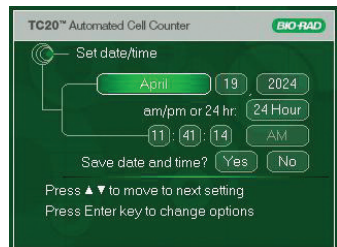

Fig. 6. Setting the date and time.
3. Use the **up** or **down** arrow key to move through the settings until you reach the setting you want to modify (for example, month) (Figure 6). Then press **Enter** to find the correct option (for example, September or October).